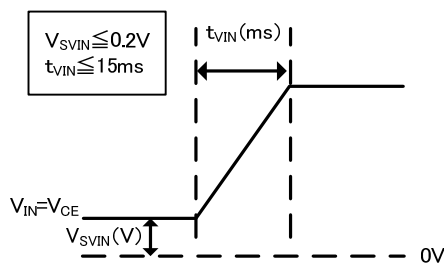

Figure 1. (Recommended for input wave form for $V_{IN}=V_{CE}$)
- As for power-on, when CE pin is used with connecting to V_{IN} pin, $V_{IN}-V_{CE}$ voltage should begin rising from below 2.0V. Rise time should be less than 15ms. (Please refer to Figure 1.)